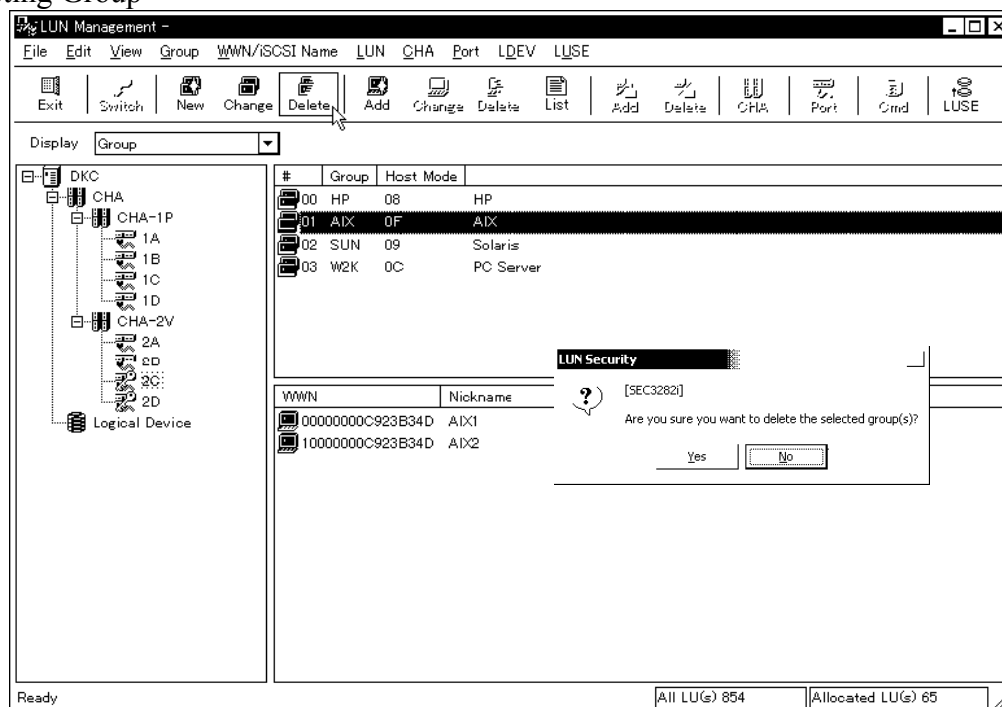

Figure 3.3.1 Main Window
- ① Select (CL) a group you want to delete from the upper right list.
- ② Select (DR) [Delete] from the [Group] menu in the Main window (Figure 3.3.1).
- ③ Since a message asking for a confirmation is displayed, select (CL) the [OK] button.
- ④ Information on the group that has been selected from the upper right list is deleted. Moreover, the details of the group information (WWN or iSCSI Name, and LUN) is also deleted.